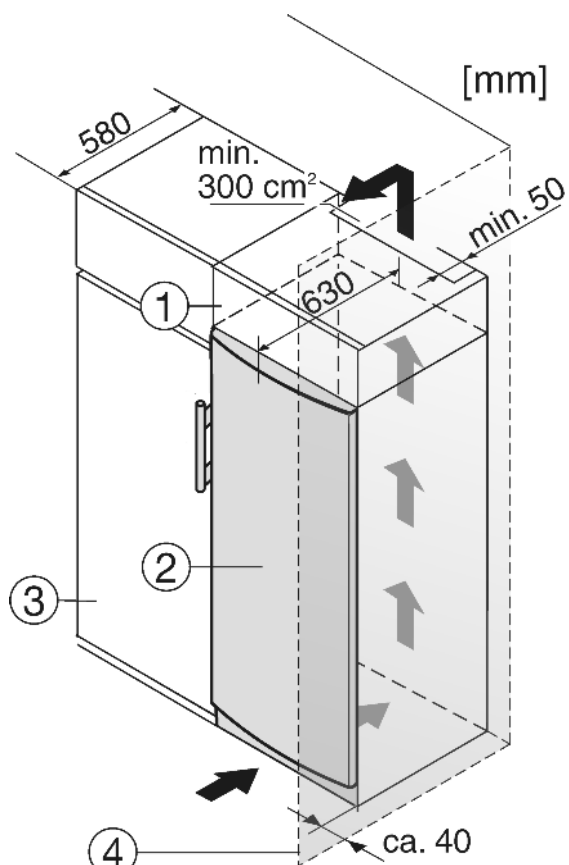

Fig. 8
- (1) Stack cabinet
- (2) Appliance
- (3) Kitchen cabinet
- (4) Wall
The appliance can be built into kitchen units. A top cupboard *Fig. 8 (2)* can be added above the appliance in order to bring the appliance *Fig. 8 (1)* up to the height of the fitted kitchen units.
When retrofitting with kitchen cabinets (max. depth 580 mm) the appliance can be installed directly next to the cabinet *Fig. 8 (3)*. The appliance door projects 34 mm from the front of the kitchen cabinet at the side and 50 mm at the centre of the appliance. This is so that it can be opened and closed easily.
If the appliance is installed with the hinges next to a wall *Fig. 8 (4)*, the distance between appliance and wall has to be at least 40 mm. This corresponds to the projection of the handle when the door is open.